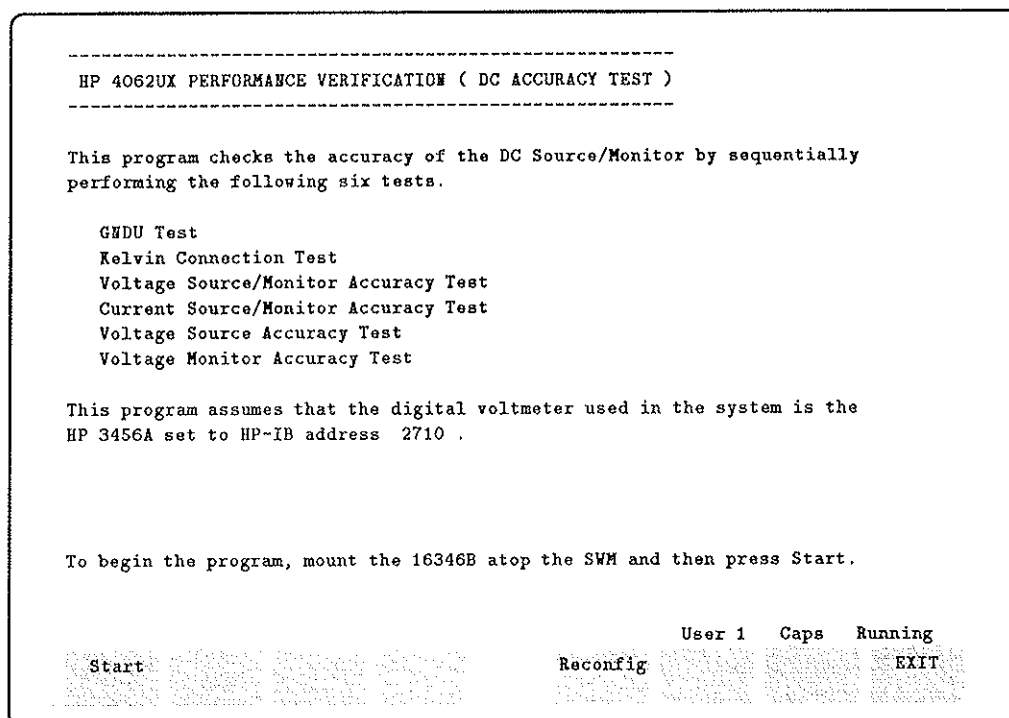

Figure 2-23. The 4062 W/ DVM Test Startup Menu Page
3. If the COM blocks declared in the START program are broken, the START program runs automatically. Refer to "The START Program" for more information on the START program. When START is finished, the program displays the start-up menu page as shown in Figure 2-23.